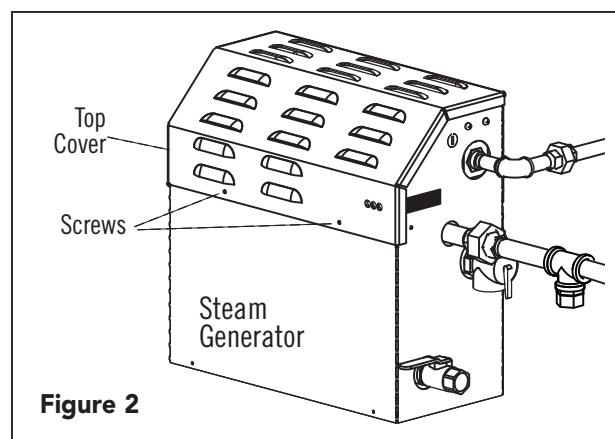

Figure 2
3. Unscrew 2 screws on top cover and remove top cover to MS Generator, see figure 2.
16. Place MS Generator's top cover back on and fasten 2 screws, see figure 2.